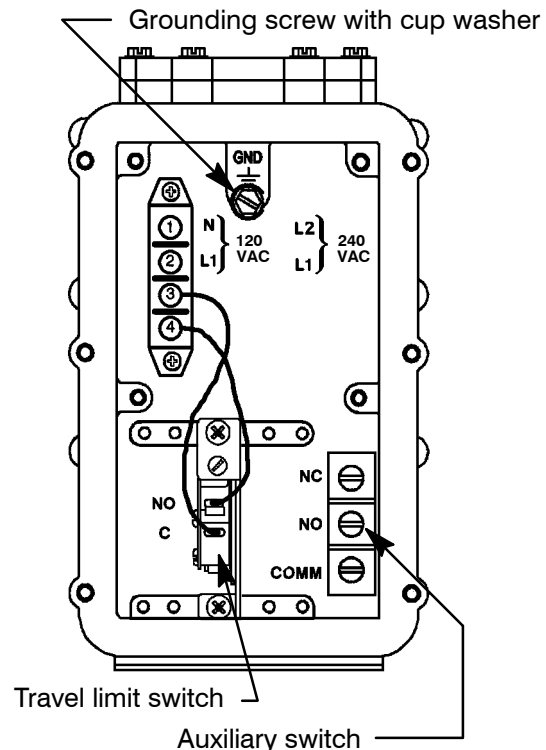

Figure 3. Typical AH2D Actuator Wiring.
**Wiring** (Refer to Figure 3)